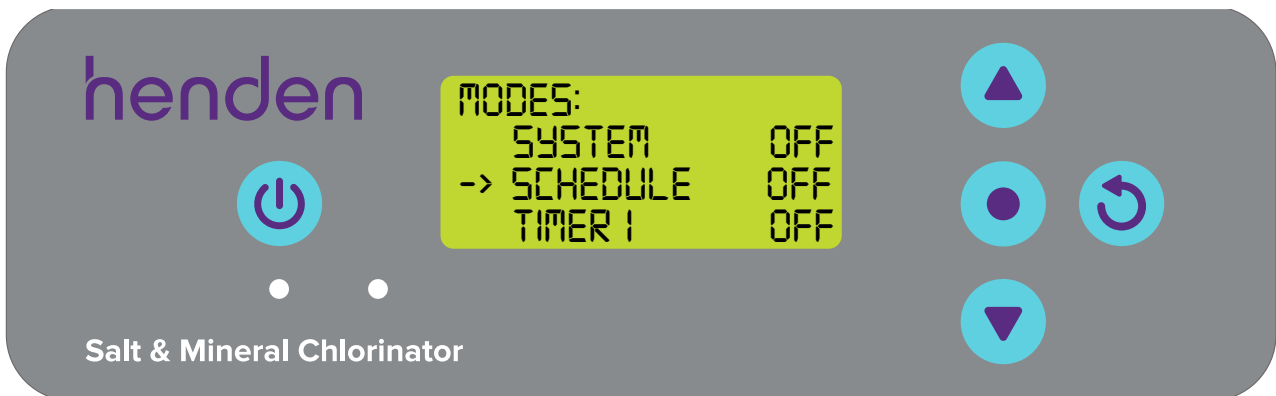

Figure 9.23
- From the MODES menu, use the  **menu up/down** buttons to scroll down to SCHEDULE (refer Figure 9.23). Then press the  **menu/setting select** button to confirm.